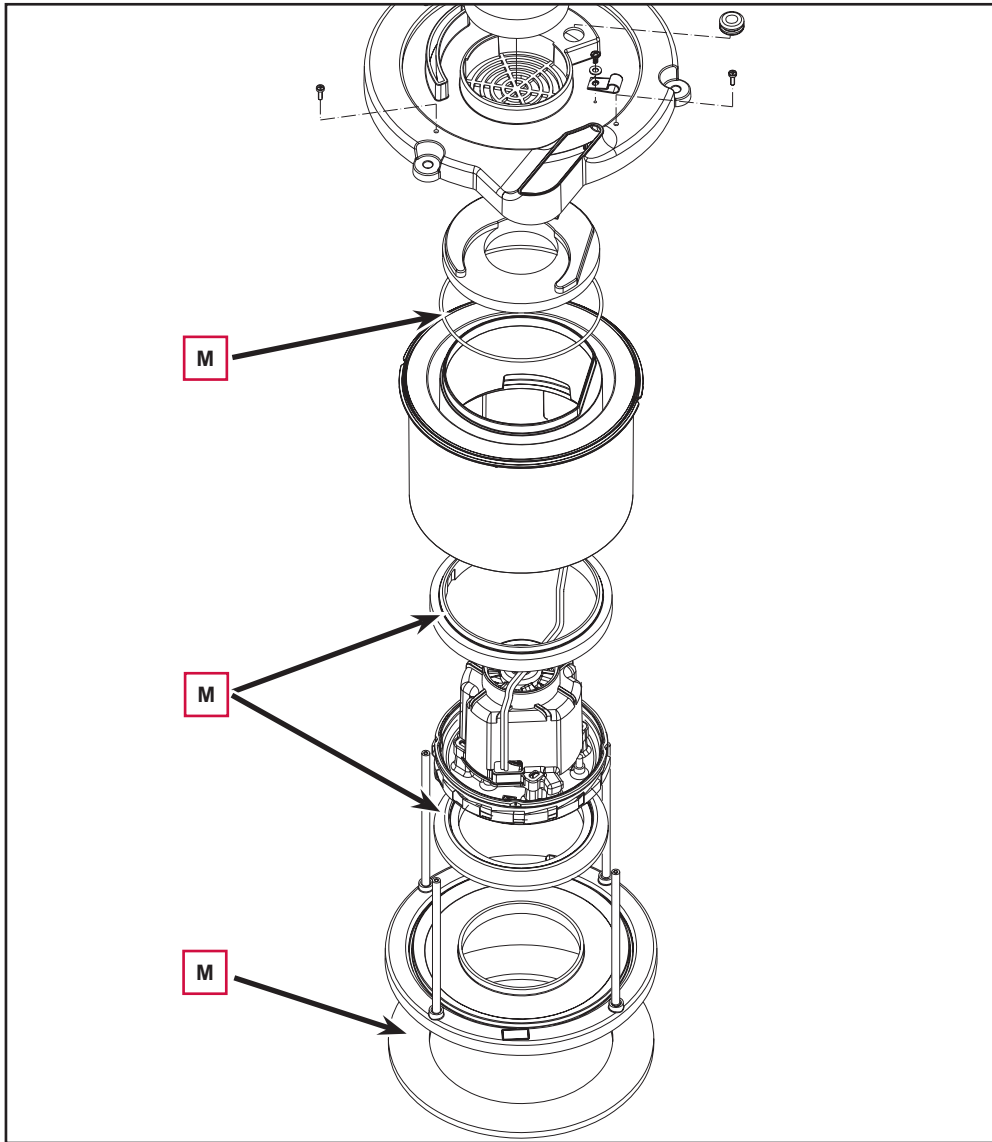

Figure 10
10. Clean the inside of the containers from any dirt that has settled and check all gaskets (M) (Figure 10) for wear; replace if necessary.